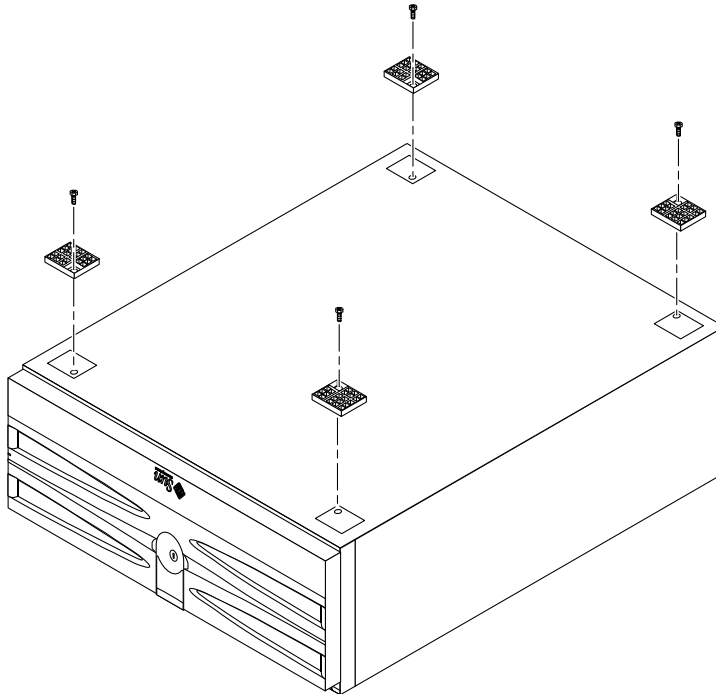

FIGURE 2 Removing the Feet
1. With the aid of an assistant, invert the array with the front facing you (FIGURE 2).